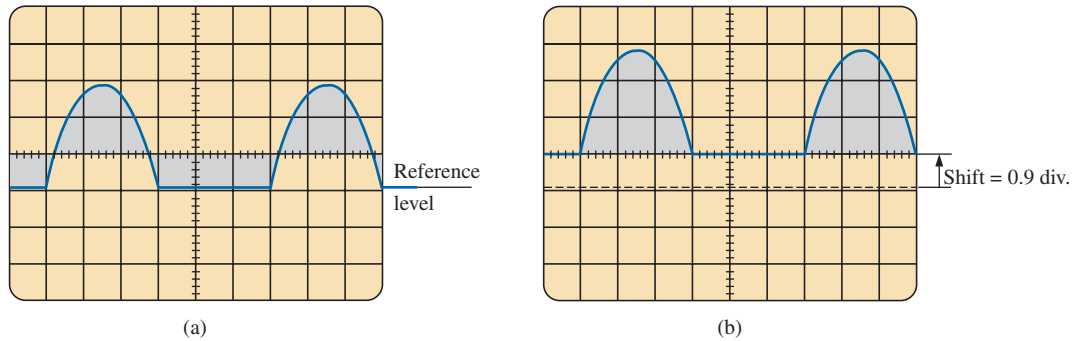

FIG. 13.58
2. Switch to AC (all dc components of the signal to which the probe is connected will be blocked from entering the oscilloscope—only the alternating, or changing, components are displayed). Note the location of some definitive point on the waveform, such as the bottom of the half-wave rectified waveform of Fig. 13.58(a); that is, note its position on the vertical scale. For the future, *whenever you use the AC option, keep in mind that the computer will distribute the waveform above and below the horizontal axis such that the average value is zero*; that is, the area above the axis will equal the area below.
- Then switch to DC (to permit both the dc and the ac components of the waveform to enter the oscilloscope), and note the shift in the chosen level of part 2, as shown in Fig. 13.58(b). Eq. (13.29) can then be used to determine the dc or average value of the waveform. For the waveform in Fig. 13.58(b), the average value is about